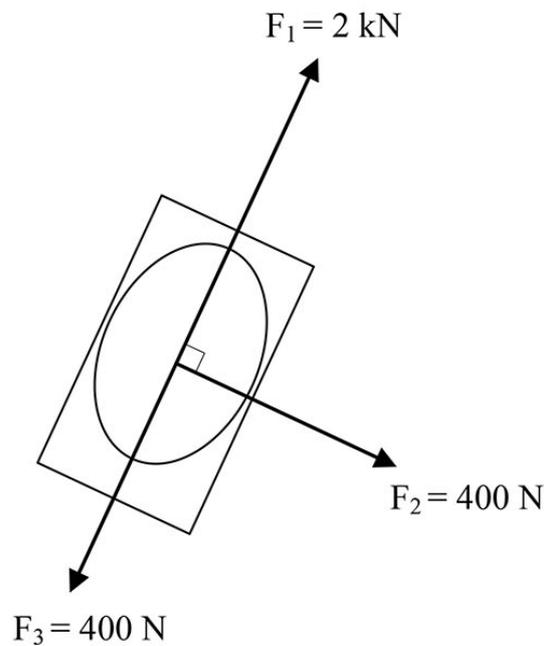

Fig. 2
- (c) Fig. 2 shows an aerial view of the horizontal forces acting on the car as it goes around a bend.